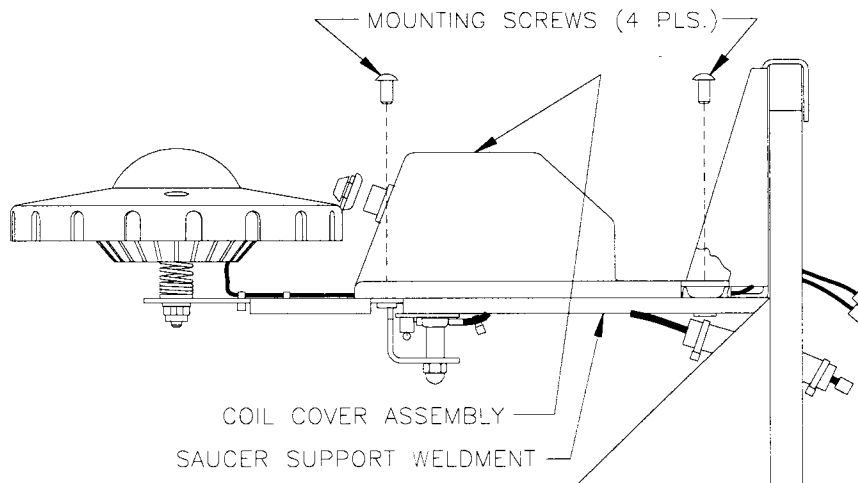

FIGURE 2
2. Place Playfield Plastic Assembly #5 to the side and remove the four mounting screws (p/n 4008-01017-05) that mount the COIL COVER ASSEMBLY (p/n A-20870) to the Saucer Support Weldment (p/n 04-10315.1). You may now access and/or service the Saucer Coil Assembly (p/n AE-26-1500), the Saucer Armature (p/n 04-10361) or the Saucer Cable Assembly (p/n H-20704.1). (See Fig.2 & 3)